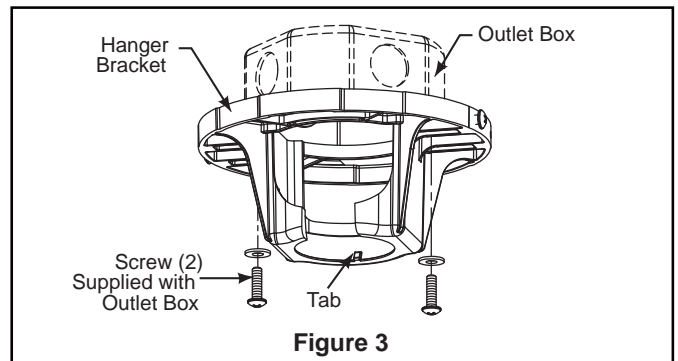
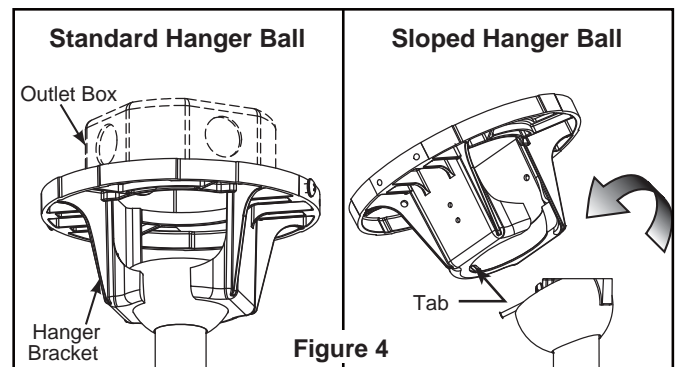

Figure 3
Figure 4
4. Route the wires through canopy trim ring assembly, motor coupling cover assembly and ceiling canopy. (Figure 4)
4. Completely remove one of each right-hand screw on either side of the flap of the hanger bracket and retain the screws for later. Loosen the remaining screws without fully removing it. (Figure 4)
- 1. Securely attach the hanger bracket to the outlet box using the outlet box screws and washers supplied with the outlet box (Figure 3).
NOTE: Outlet box screws pass through slotted holes of the hanger bracket (Figure 3).
Carefully lift the fan and seat the downrod/hanger ball assembly on the hanger bracket that was just attached to the outlet box (Figure 4). Be sure the groove in the ball is lined up with tab on the hanger bracket (Figure 3).
3. Push the canopy trim cover assembly up to conceal the screws, such that the mounting tabs seat into the dimpled grooves in the ceiling canopy midway between the screws. (Figure 4)
4. Assemble the switch housing cover to the inner-switch housing assembly by twisting in a clockwise direction. (Figure 4)
Connect the 2 single-pin connectors from the light kit to the 2 single-pin connectors from motor assembly. (Figure 4)